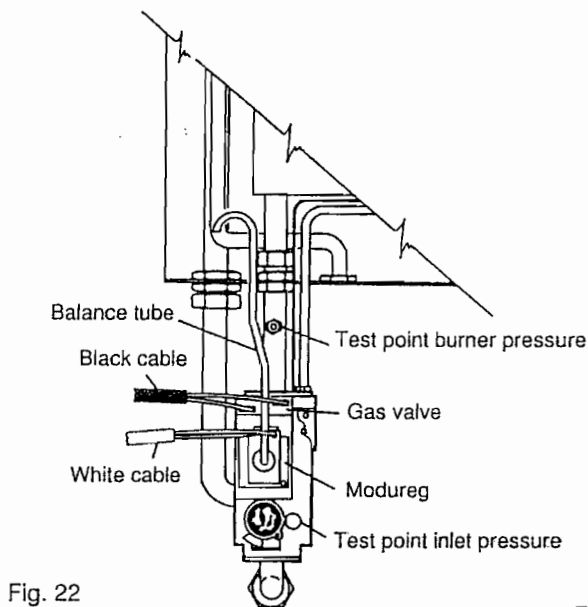

Fig. 22
- Loosen the screw in the burner pressure test point (fig. 22) and attach a gauge.
- e. Disconnect one of the wires from the «Modureg» (fig. 22), this will reduce the burner to minimum which should read 2.5 mbar  $\pm$  0.5 mbar. If the burner pressure are not as stated check the inlet pressure (fig. 22) which should be minimum 20 mbar. If that is correct, consult Ferroli. No attempt should be made to alter D.H.W. burner pressure.